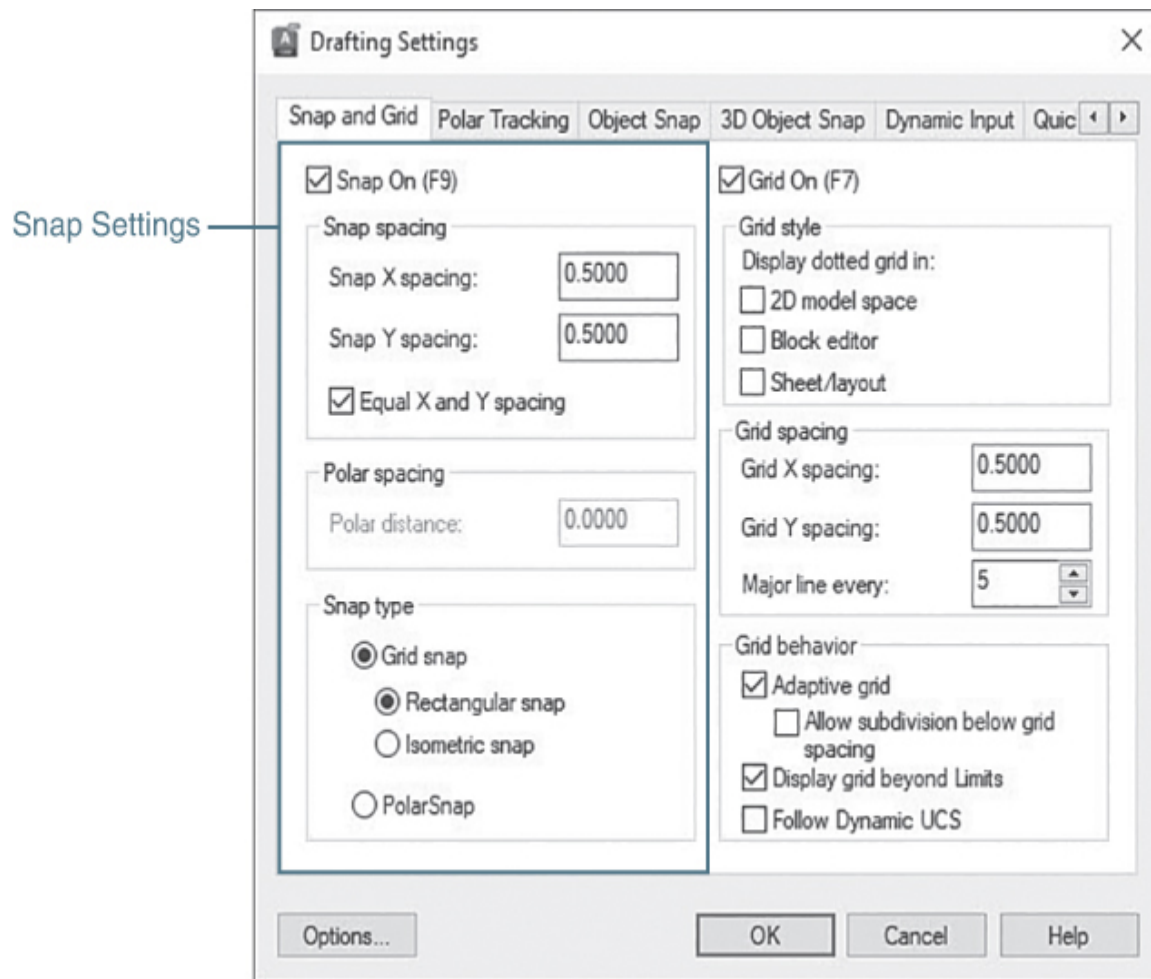

Figure 5-7
The horizontal and vertical spacing between the snap points is controlled on the **Snap and Grid** tab of the **Drafting Settings** dialog box shown in Figure 5-7. You can change the distance between the snap points by specifying the **Snap X spacing** for the horizontal distance and the **Snap Y spacing** for the vertical distance. The X and Y distances are typically set to an equal value. By default, when you try to
change one distance the other distance is updated automatically. You must uncheck the **Equal X and Y spacing** check box shown in Figure 5-7 before setting values that are not the same.
There are two major types of **Snap** modes: **Grid snap** and **Polar snap**. You can switch between the different types using the option buttons in the **Snap type** section of the **Drafting Settings** dialog box shown in Figure 5-7. The default mode is **Grid snap**, which has two different styles:
- 12** Click on the down arrow menu to the right of the **Snap Mode** button on the status bar and select **Snap Settings...** from the shortcut menu. The **Snap and Grid** tab of the **Drafting Settings** dialog box is displayed (see Figure 5-7).